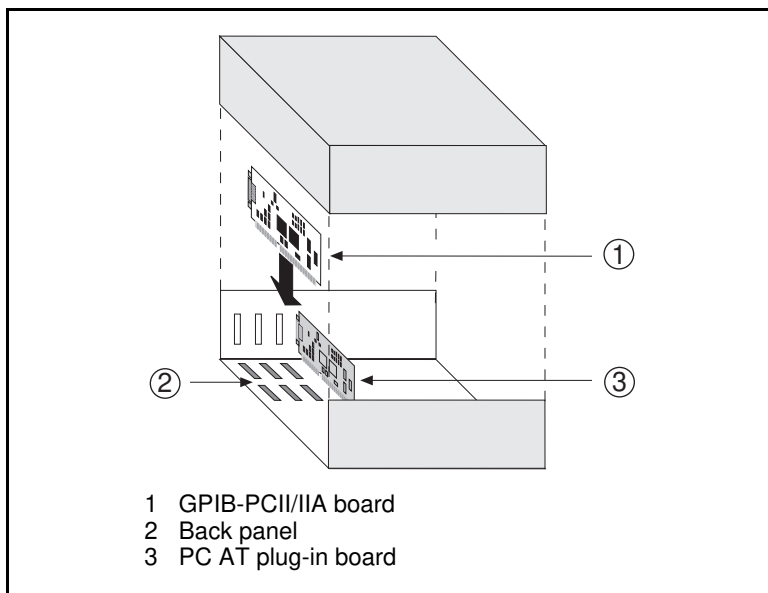

Figure 1-1. Installing the GPIB-PCII/IIA
5. Insert the GPIB-PCII/IIA into any unused slot with the GPIB connector sticking out of the opening on the back panel, as shown in Figure 1-1. It might be a tight fit, but do not force the board into place.